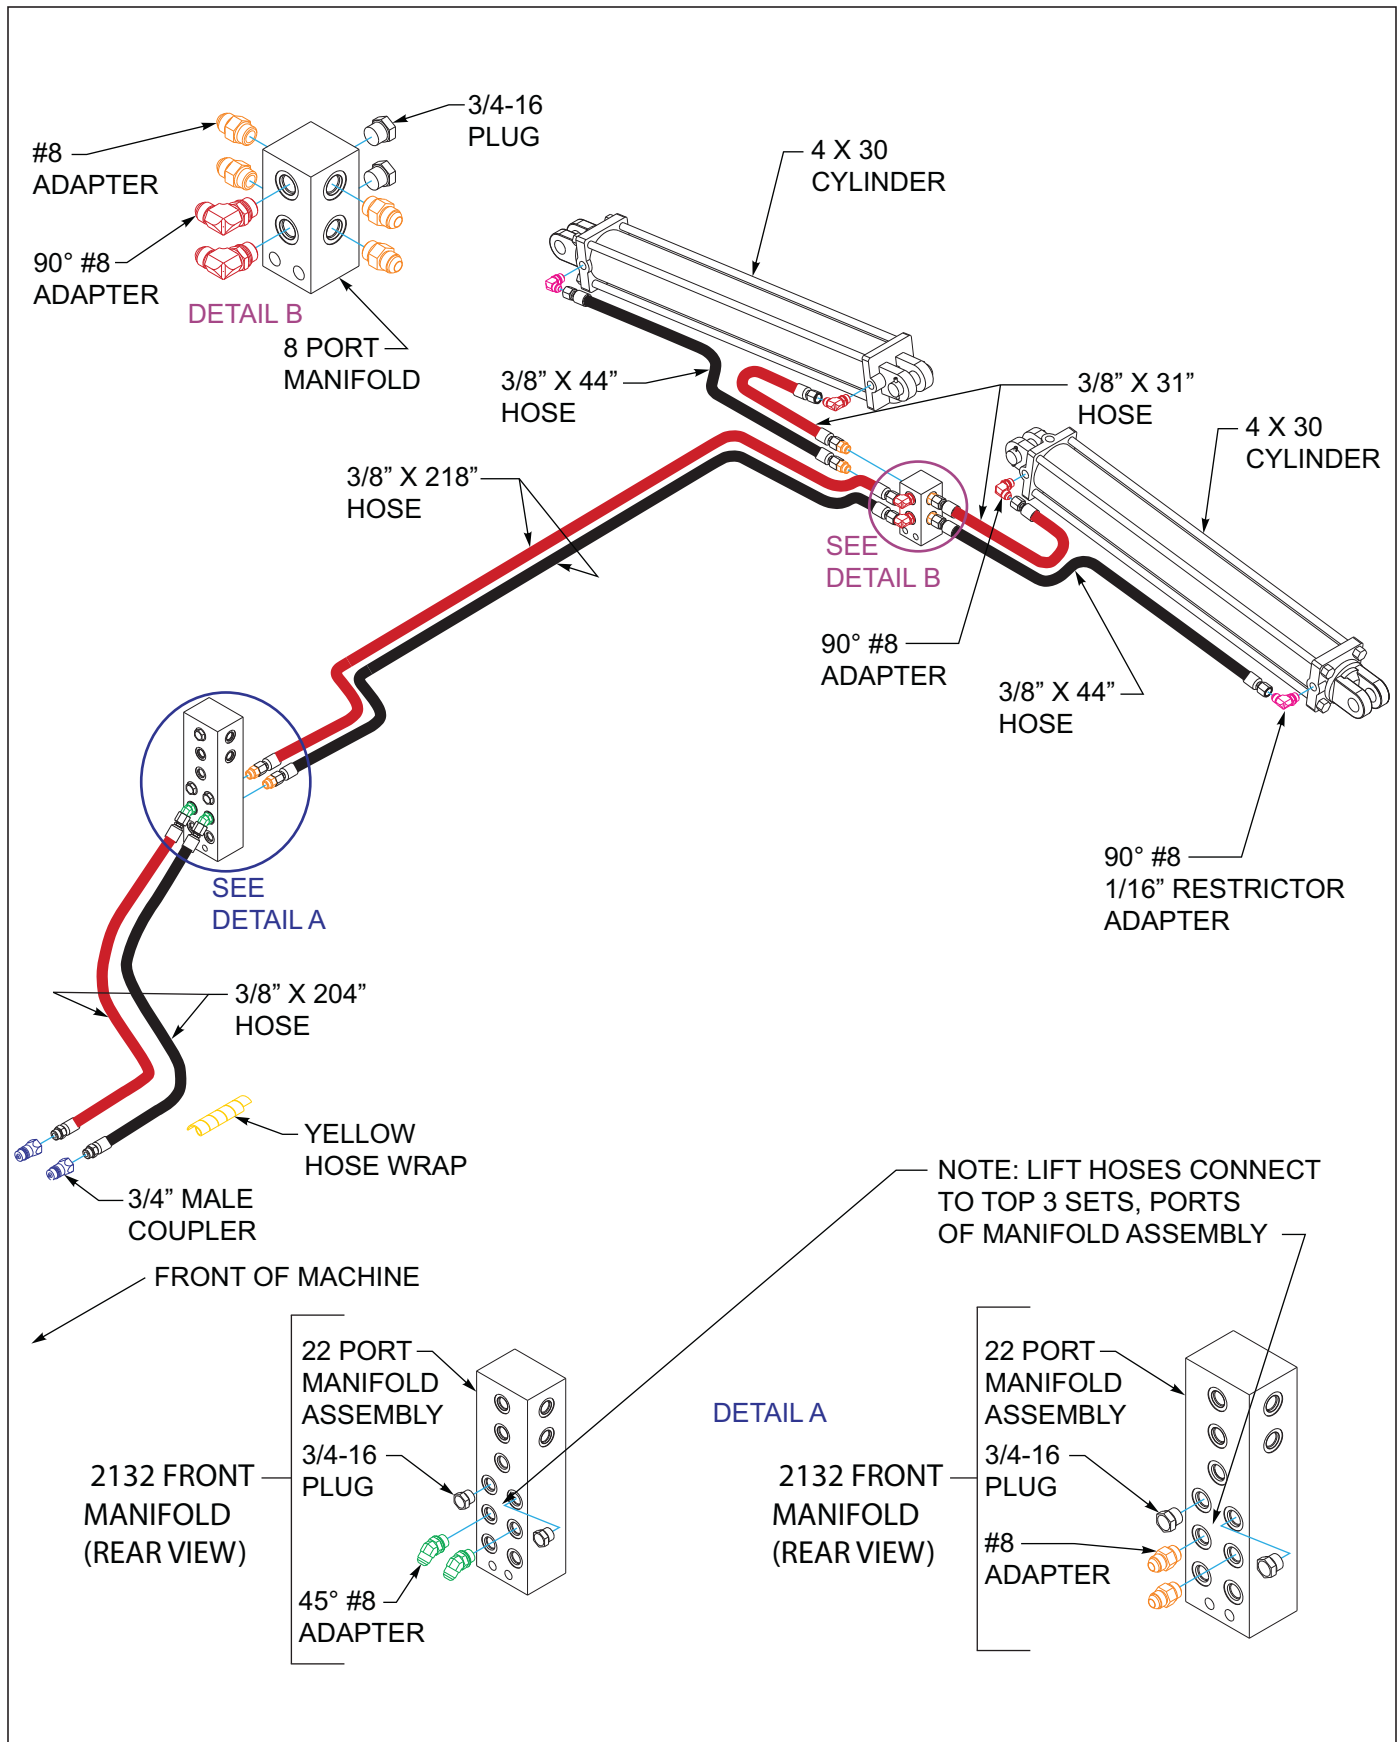
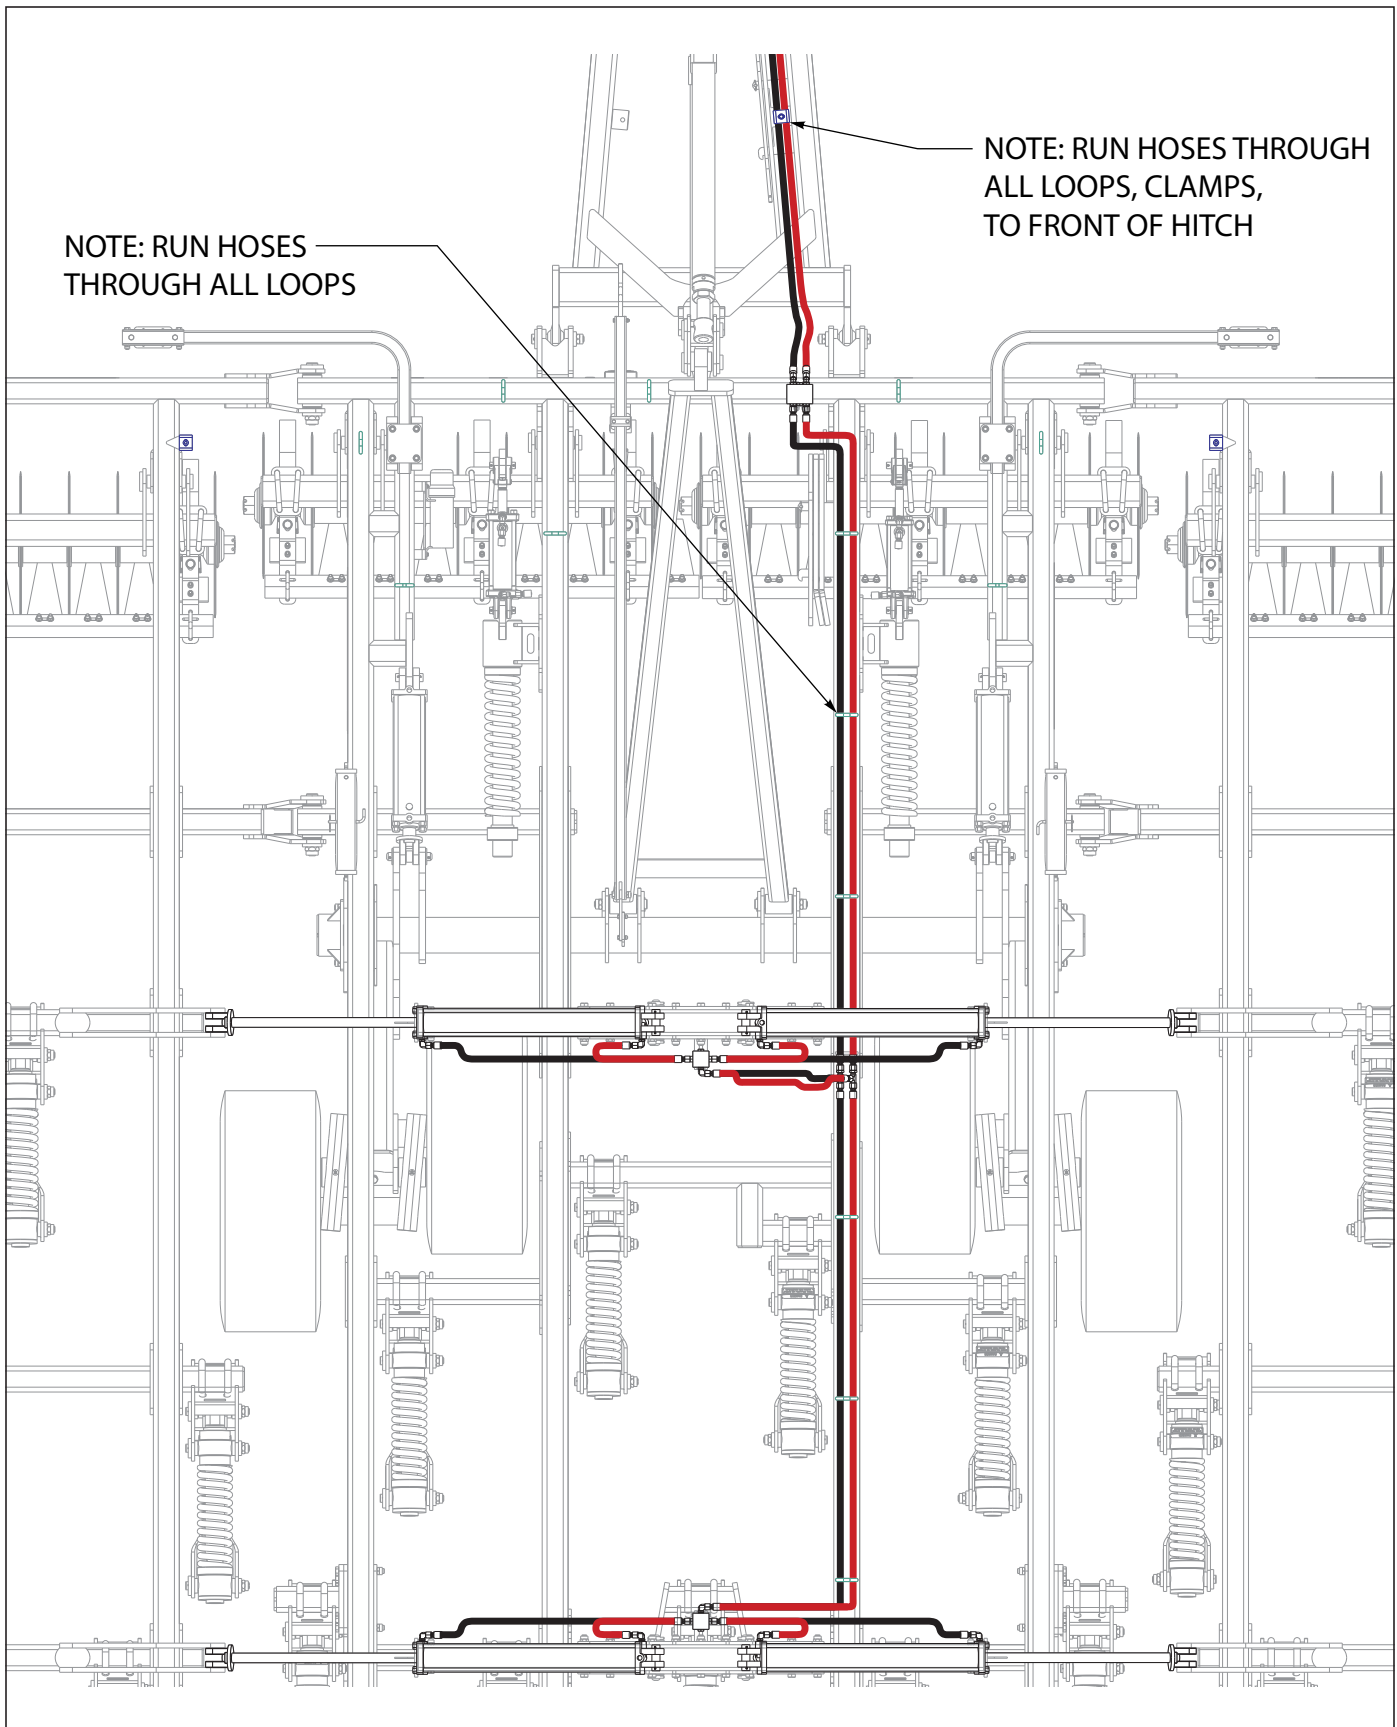
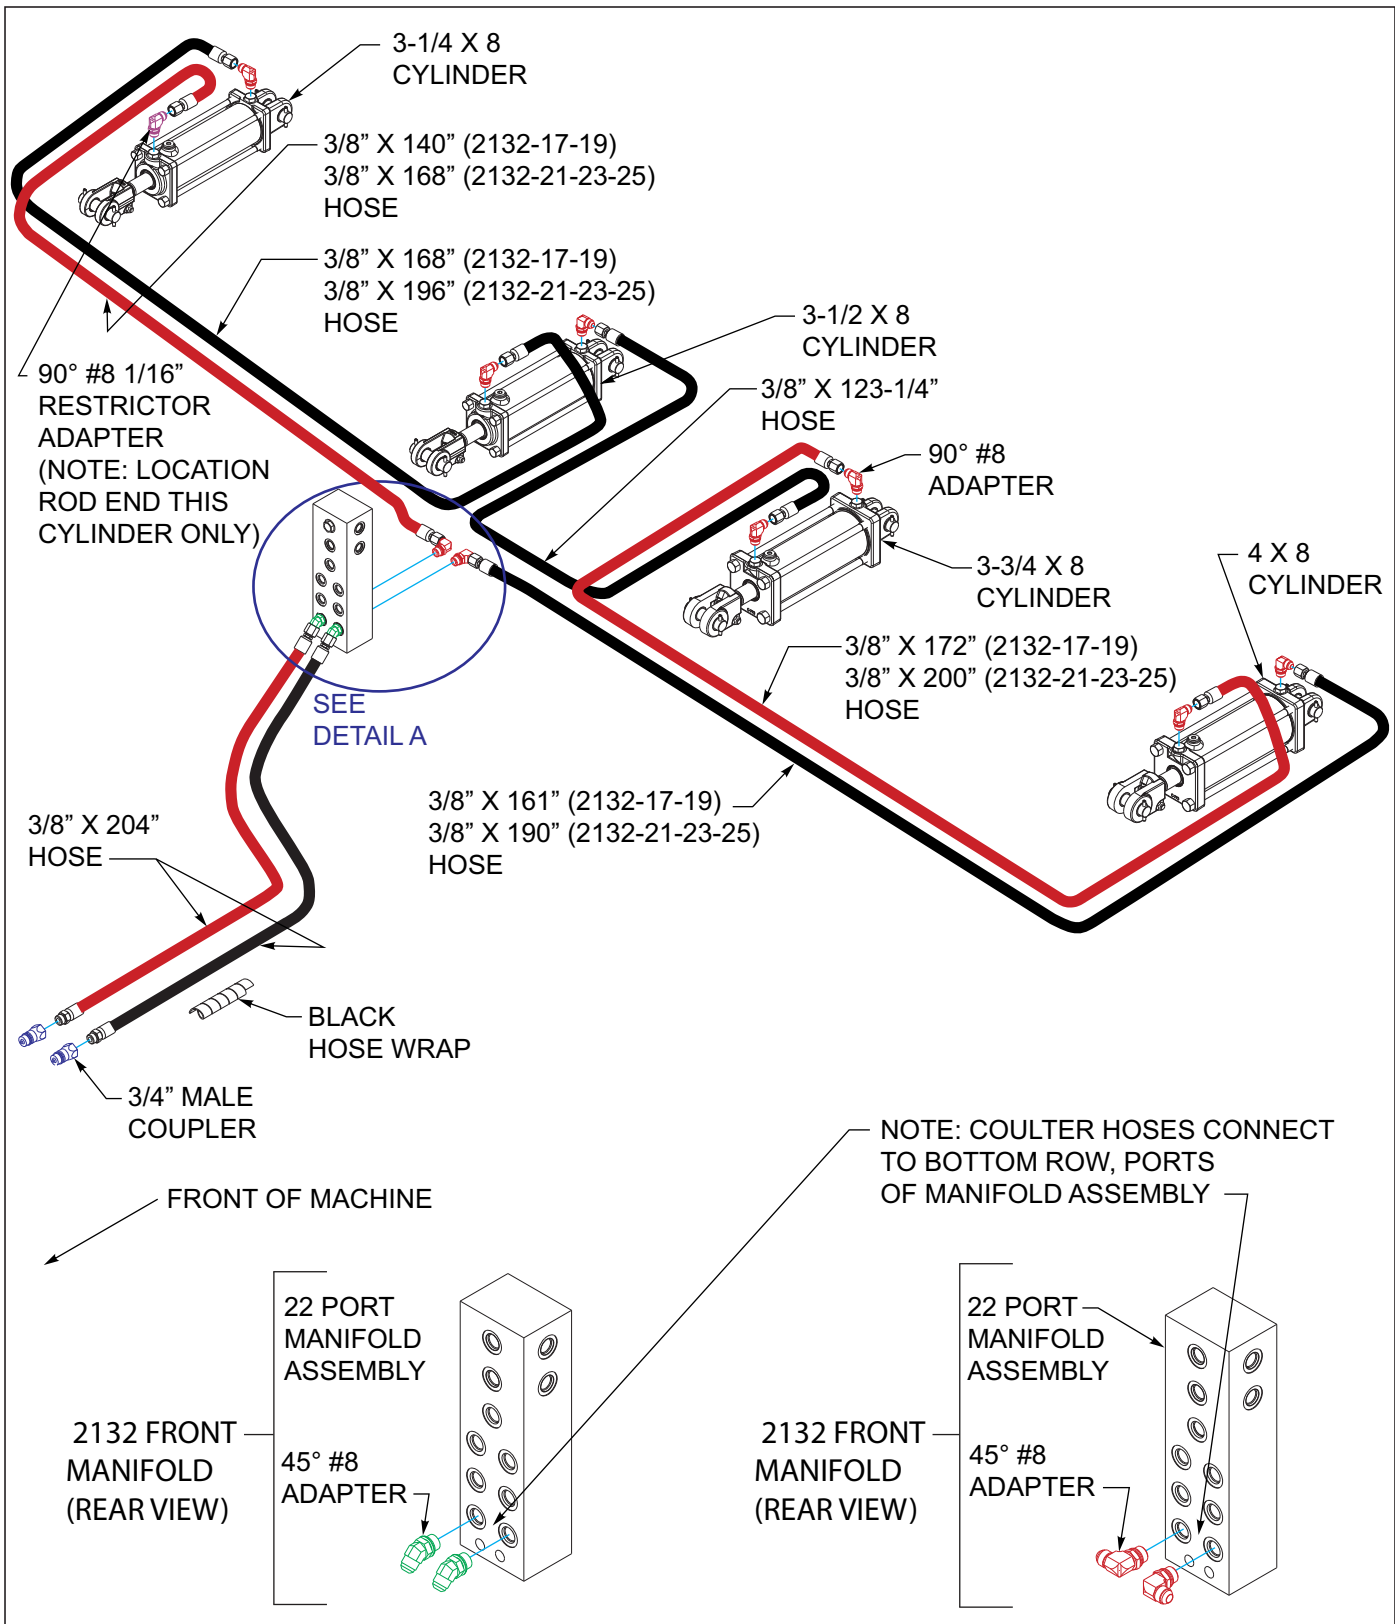

Figure 3-14: Fold Hydraulic Installation 2132-17-19'
Figure 3-17: Fold Hydraulic Layout 2132-21-23-25
Figure 3-18: Coultter Gang Hydraulic Installation
2. See Figures 3-14 through See Figures 3-17 for fold hydraulic installation.
4. See Figures 3-18 through See Figures 3-17 for coulter gang hydraulic installation.